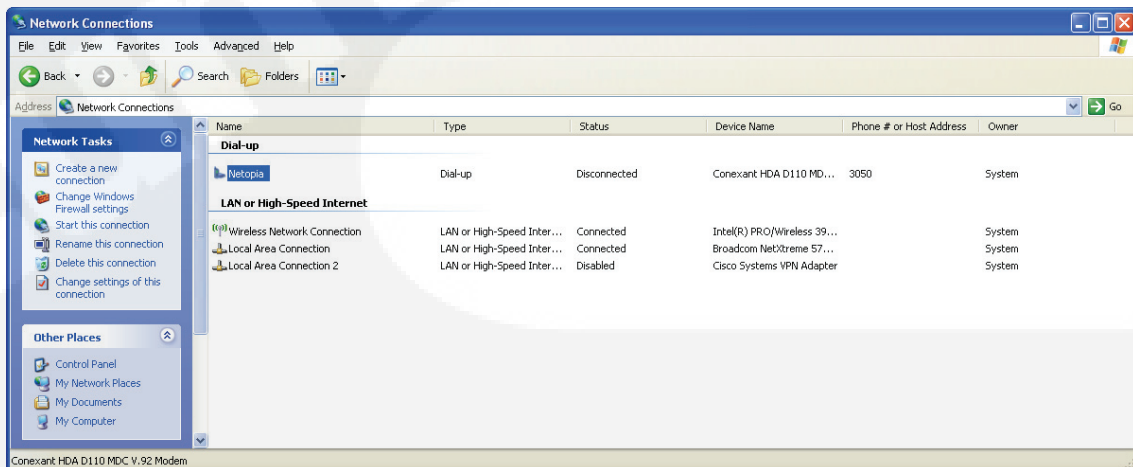

FIGURE 4-8. NETWORK CONNECTIONS PROPERTIES WINDOW
1. On the desktop of your computer, right click on **My Network Places** and select **Properties**. A window is displayed (see Figure 4-8).
NOTE: Before you can proceed, your PC's Ethernet port must be connected to another live Ethernet port on another piece of equipment in order to dynamically change or set a static IP address on your PC. In this case you should be connected directly to the *i.LON 100* using either a patch or cross-over cable. The *i.LON 100* will automatically reconfigure it's port to accept either type of cable. If you are not connected to a live Ethernet port, you will be required to reboot your PC before the changes take place (see Figure 4-8). If you are connected to a live port, the Status column should show "Connected".